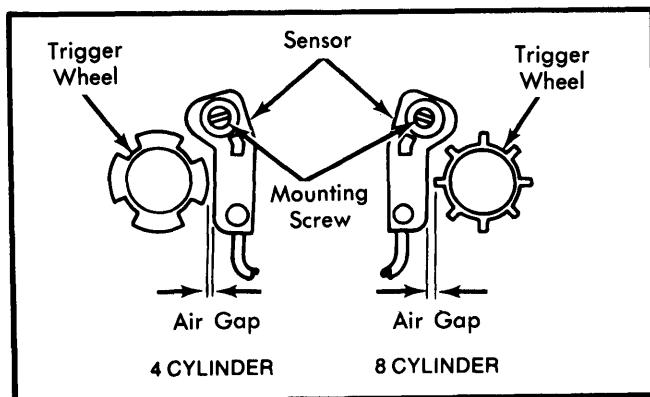

Fig. 4 Checking Trigger Wheel-to-Sensor Air Gap
1) Remove distributor cap, rotor and shield. Turn engine over until one trigger wheel tooth is aligned with centerline of sensor. Trigger wheel tooth should be perpendicular to flat surface of sensor. See Fig. 4.